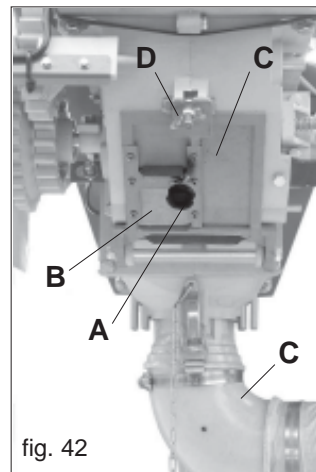
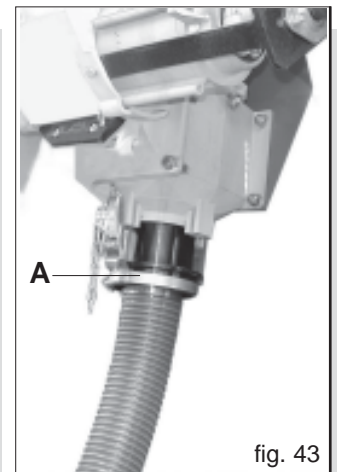

fig. 42
fig. 43
- a) put a bag or a container under the discharge hatch of the dosing apparatus, and then unscrew the knob (A Fig. 42) to discharge the hopper contents through the hatch (B). Lastly, open the discharge hatch (C Fig. 42) by unscrewing the wing nut (D Fig. 42) to empty the remaining contents of just the doser;
- b) Remove the bend under the injecting tube (C Fig. 42), and then attach the collecting tube supplied with the machine (A Fig. 43) in the same position and place a collecting container at the other end of the tube; turn the transmission wheel in the direction of travel using the handle.